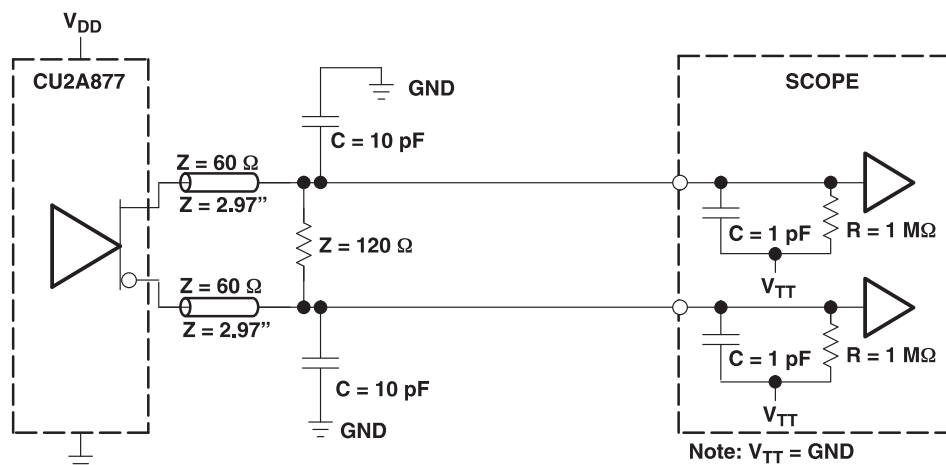
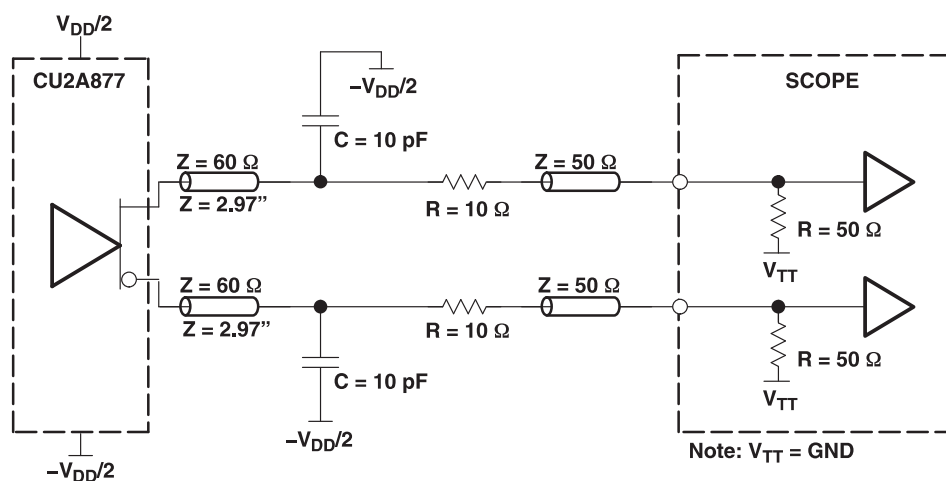
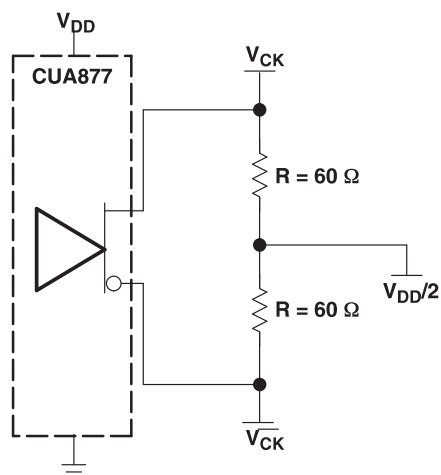

Figure 2. Output Load Test Circuit 1 (Using High-Impedance Probe)
Figure 3. Output Load Test Circuit 2 (Using SMA Coaxial Cable)
Figure 4. IBIS Model Output Load
- (1) There are two different terminations that are used with the following tests. The load/board in Figure 2 is used to measure the input and output differential-pair cross voltage only. The load/board in Figure 3 is used to measure all other tests. For consistency, equal length cables must be used.
- (2) This parameter is assured by design and characterization.
- (3) Phase static offset time does not include jitter.
- (4) For full frequency range of 160MHz to 410MHz.
- (5) Period jitter, half-period jitter specifications are separate specifications that must be met independently of each other.
- (6) In the frequency range of 271 MHz to 410 MHz, the minimum and maximum values of $t_{jit(per)}$ and $t_{(\phi)dyn}$ and the maximum value for $t_{sk(o)}$ must not exceed the corresponding minimum and maximum values of the 160 MHz to 270 MHz range. In addition, the sum of the specified values for $|t_{jit(per)}|$, $|t_{(\phi)dyn}|$, and $t_{sk(o)}$ must meet the requirements for the $\Sigma t_{(su)}$ and the sum of the specified values for $|t_{(\phi)dyn}|$ and $t_{sk(o)}$ must meet the requirements for the $\Sigma t_{(h)}$.
- (7) The output slew rate is determined from the IBIS model into the load shown in Figure 4.
- (8) To eliminate the impact of input slew rates on static phase offset, the input skew rates of reference clock input CK and \overline{CK} and feedback clock inputs FBIN and \overline{FBIN} are recommended to be nearly equal. The 2.5-V/ns skew rates are shown as a recommended target. Compliance with these typical values is not mandatory if it can adequately shown that alternative characteristics meet the requirements of the registered DDR2 DIMM application.
- (9) Output differential-pair cross voltage specified at the DRAM clock input or the test load.